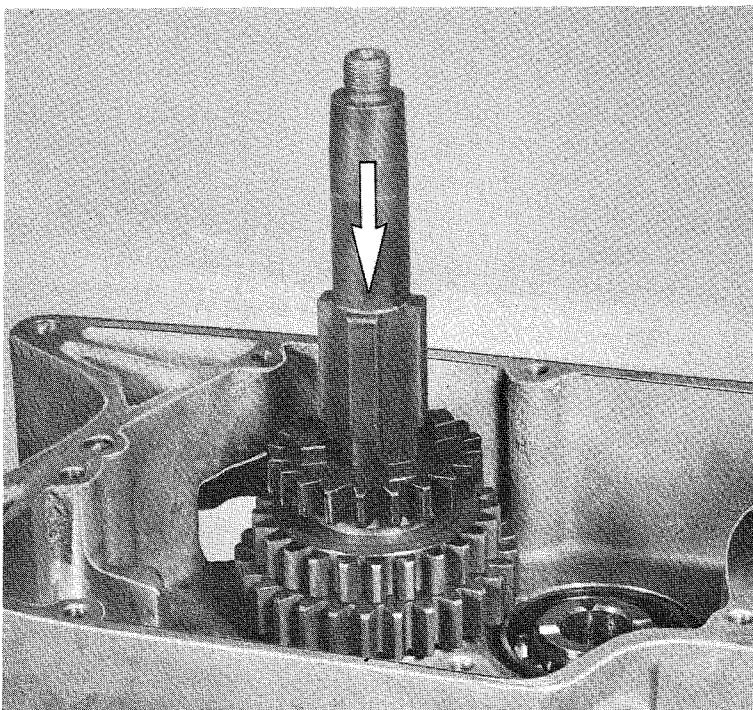

Fig. 5
5. Insert the sprocketshaft with pinions into the left-hand half of the crankcase. See Fig. 5.